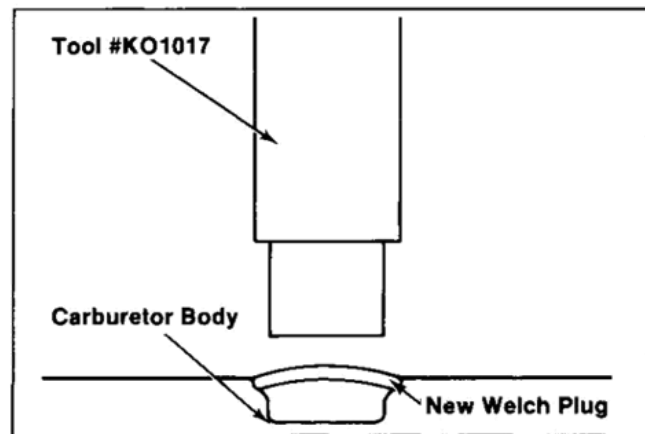

**Figure 6-28. Installing Choke Lever/Shaft.**
2. Compress the detent ball and spring. Insert the choke lever/shaft assembly into carburetor body with the cutout portion of shaft facing the air cleaner mounting surface (refer to Figure 6-28). Make sure the choke lever is on the correct side of carburetor body.